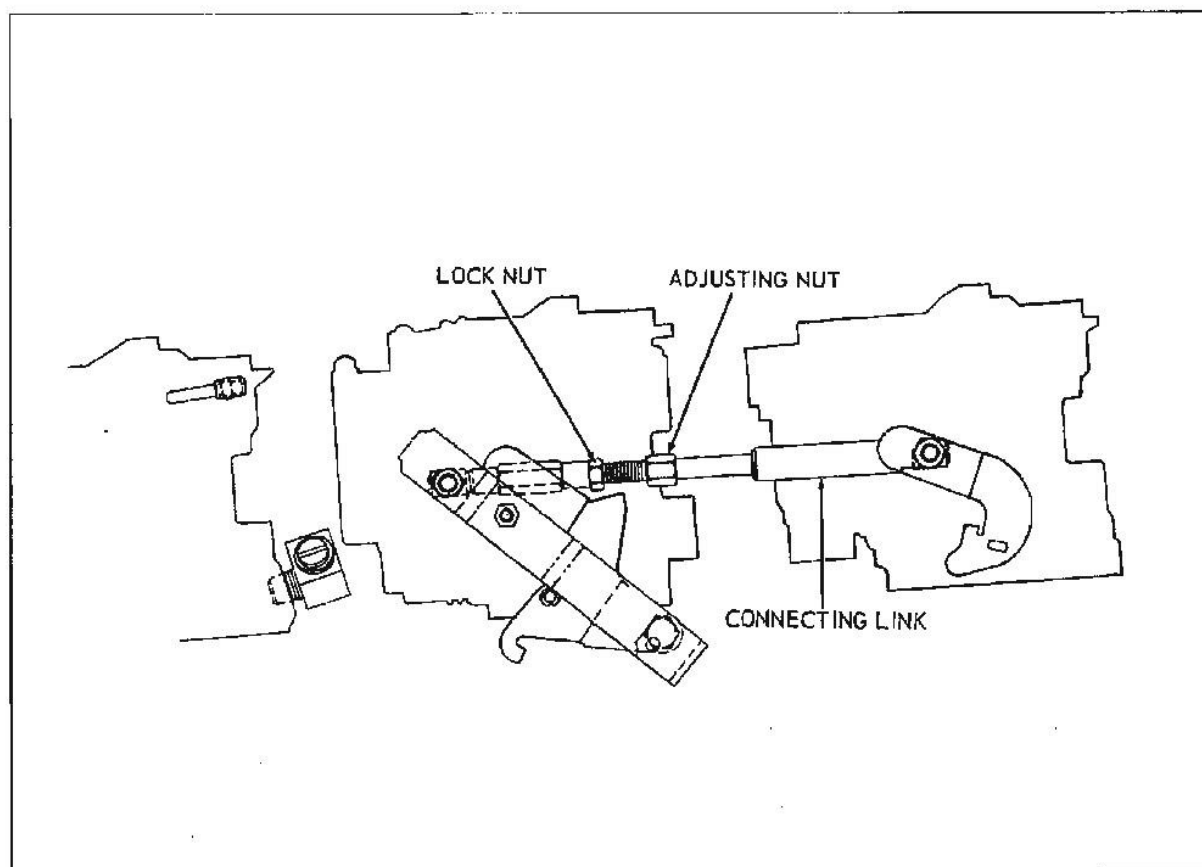

Fig. 6B-101 Mechanical Throttle Linkage - Tri-Power Synchro-mesh
2. Set connecting link (Fig. 6B-101) between center and rear carburetor.
**FLOAT LEVEL ADJUSTMENT—(Fig. 6B-102)**